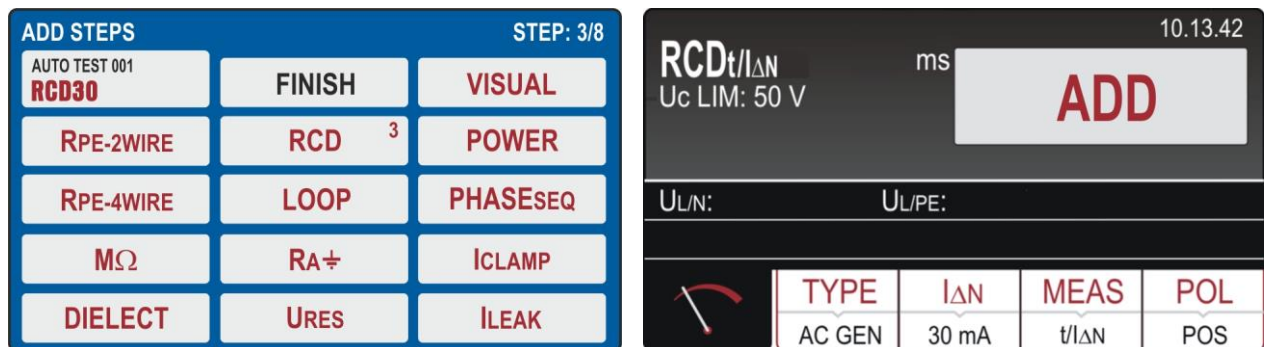

Fig. 21 : AUTOTEST Menu – Including tests inside an Autotest
5. Press the **ADD STEPS** key or touch the selected Autotest to add a test. The instrument proposes the screen of Fig. 21 - left side
6. Touch the test to be include (ex: RCD) noting the presence of the number of tests currently included in the Autotest (ex: 3). The instrument shows the screen of the selected function (see Fig. 21 - right side). Perform the desired programming and touch the **ADD** key to add the test
7. Repeat the same steps to add up to 8 tests and touch the **FINISH** button (see Fig. 21 - left side) to finish the inclusion. Note the Autotest update
15. Press the **ADD STEPS** key or touch the selected Autotest to add a test. The instrument shows the screen of Fig. 21 - left side. Touch the **VISUAL** key. The following screen is shown on the display